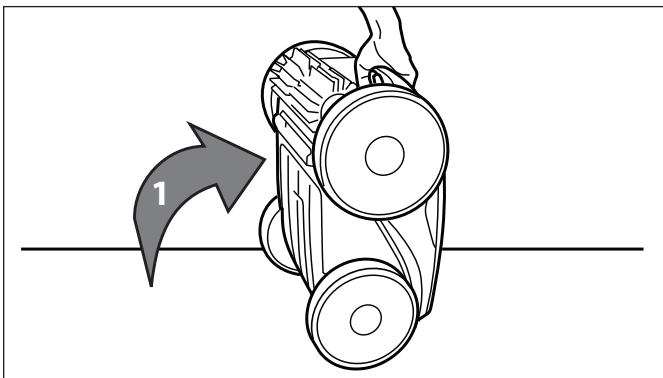

Figure 26. Cleaner in Upright Position
1. Lift the cleaner to a vertical position so that the handle is up (Figure 26).